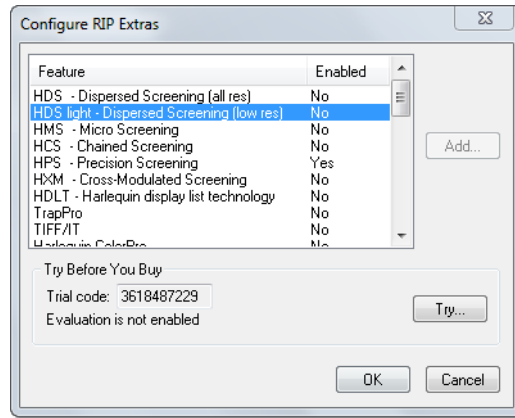

Figure 1.3 The Configure RIP Extras dialog
1. Start the Harlequin RIP. Choose Harlequin RIP > Configure RIP (or CTRL+R) to open the Configure RIP dialog. Click Extras to open the Configure RIP Extras dialog (Figure 1.3).